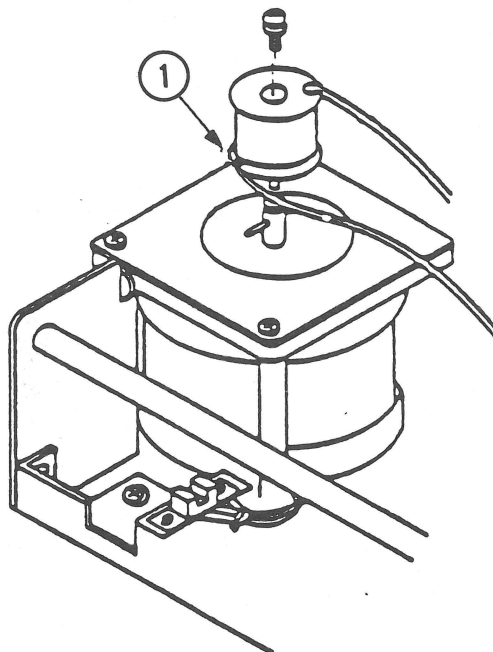

FIGURE 26
20. Remove the bottom end of the carrier wire (Figure 26, #1) from the motor pulley.